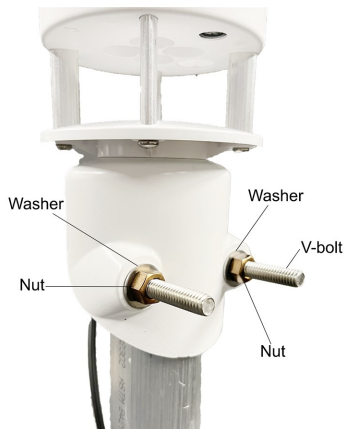

Figure 6-3. ClimaVue 40 mounted to a pole with V-bolt and nuts
2. Loosely mount the ClimaVue 40 to the tripod mast, CM300-series pole, or mounting tube by using the V-bolt, washers, and nuts (Figure 6-3 [p. 11]).